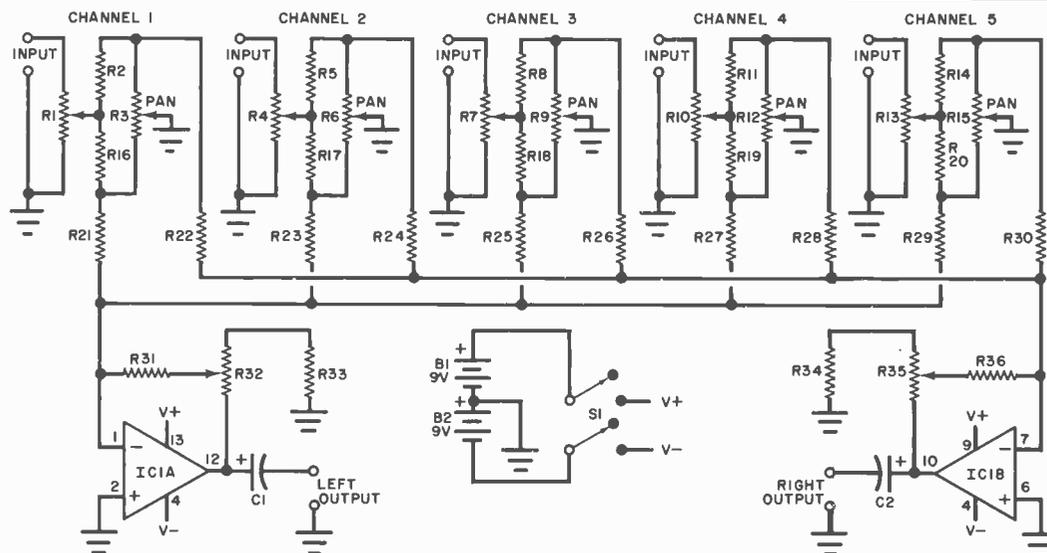

Fig. 1. Schematic diagram shows how five input channels are mixed down to a stereo output by an op amp summer.
**About the Circuit.** Referring to the schematic diagram (Fig. 1), three distinct sections can be identified. The first is the input level control section